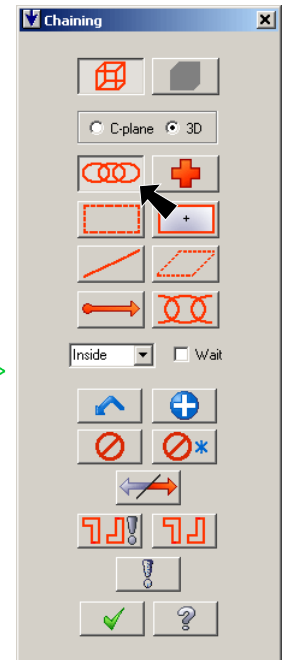

Fig. 13
Step 4. Click Chain  in Chaining dialog box, Fig. 13.